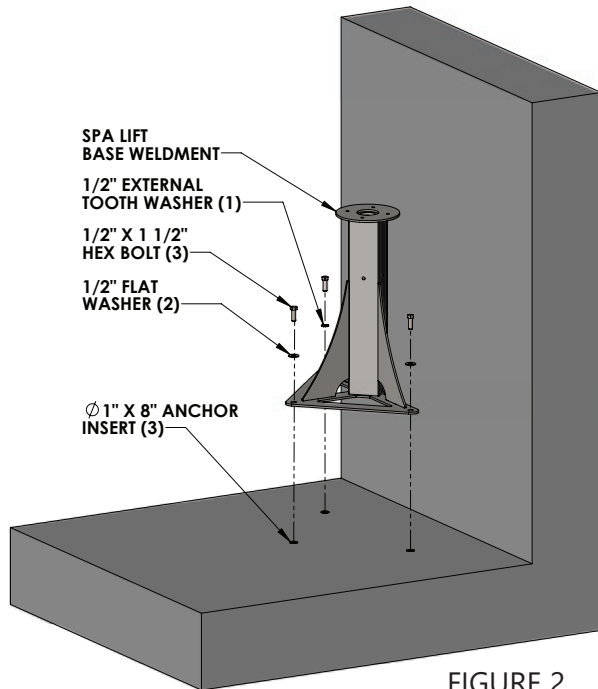

FIGURE 2
1. Once the anchor inserts have been installed, the base weldment can now be secured to the deck using the 1/2 inch hex bolts and washers. See FIGURE 2.